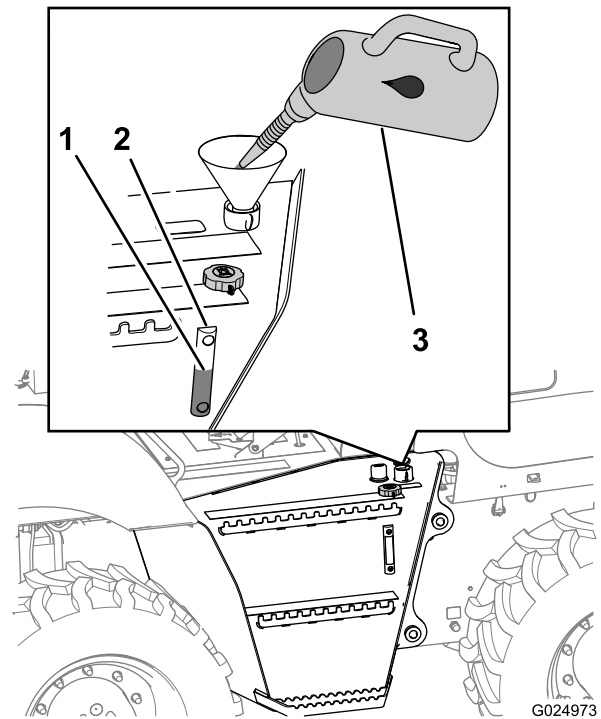

Figure 109
3. Install the fill cap (Figure 109).
1. Fill the hydraulic-fluid reservoir with the specified hydraulic fluid until the fluid level is at the midpoint of the sight gauge (Figure 109).